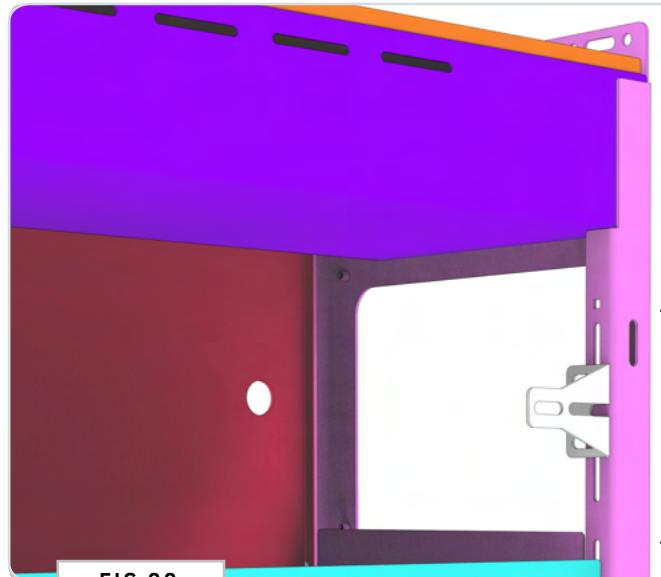
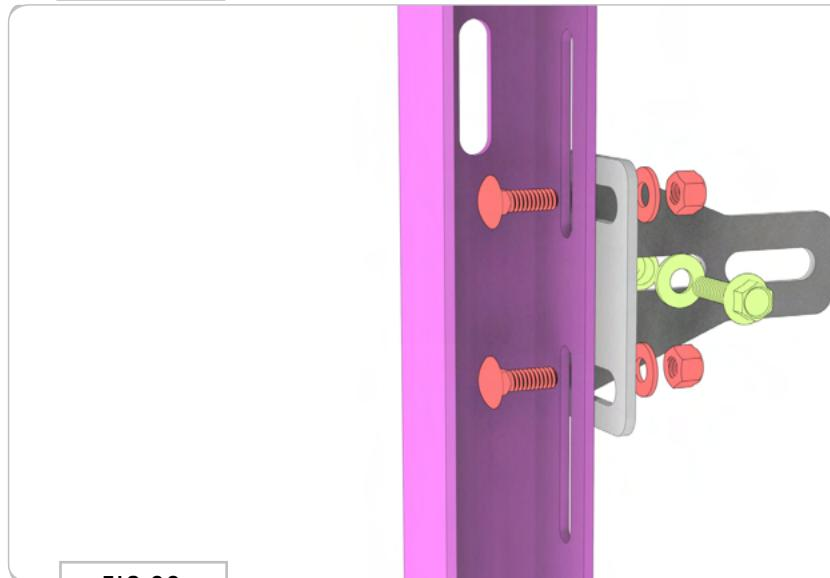

FIG 88
FIG 89
7.1 Attach Hinge and Table Side Cabinets to Van Walls: Dry fit the **Mounting Brackets** to the available slots along the **Left and Right Cabinet Ends** for both the **Hinge and Table Side Cabinets** and mark your locations for drilling (FIG 88). Drill out your holes with a 25/64" Drill Bit, set your **Rivet Nuts** and secure to the **Cabinet** using **[2] 1/4-20 x 0.75 Square Neck Carriage Bolts, Flat Washers and Nylon Locknuts**. Secure to set **Rivet Nuts** using **1/4-20 x 1 Flanged Hex Head Screws** (FIG 89).